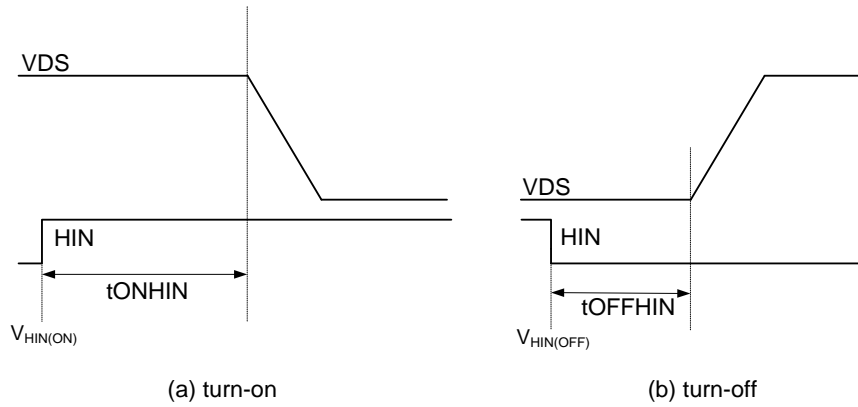
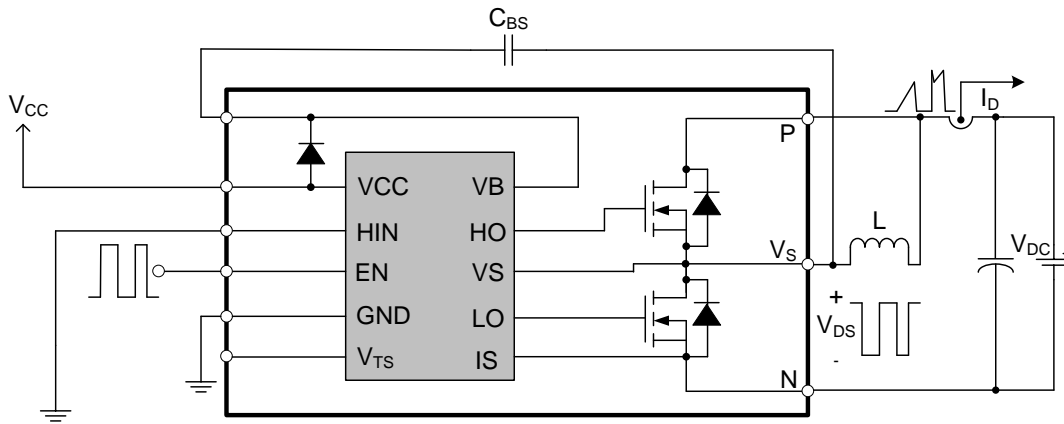

Figure 5. Switching Time Definitions
Figure 6. Switching Test Circuit (Low-side)
- t_{ON} and t_{OFF} include the propagation delay of the internal drive IC. Listed values are measured at the laboratory test condition, and they can be different according to the field applications due to the effect of different printed circuit boards and wirings. Please see Figure 5 for the switching time definition with the switching test circuit of Figure 6.